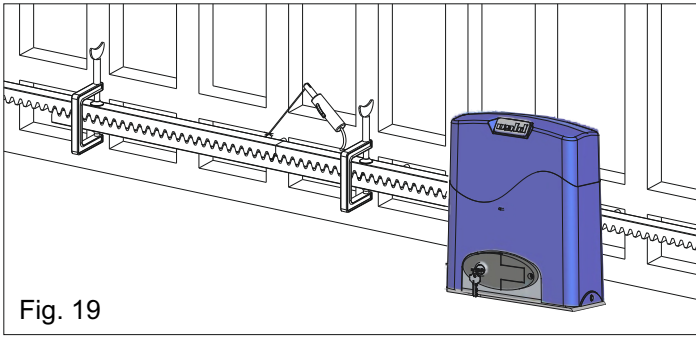

Fig. 19
- d) Make sure that all the gear rack elements are perfectly aligned and correctly placed (teeth must be in phase). It's suggested to oppose an element to two aligned elements as shown in Fig. 19;